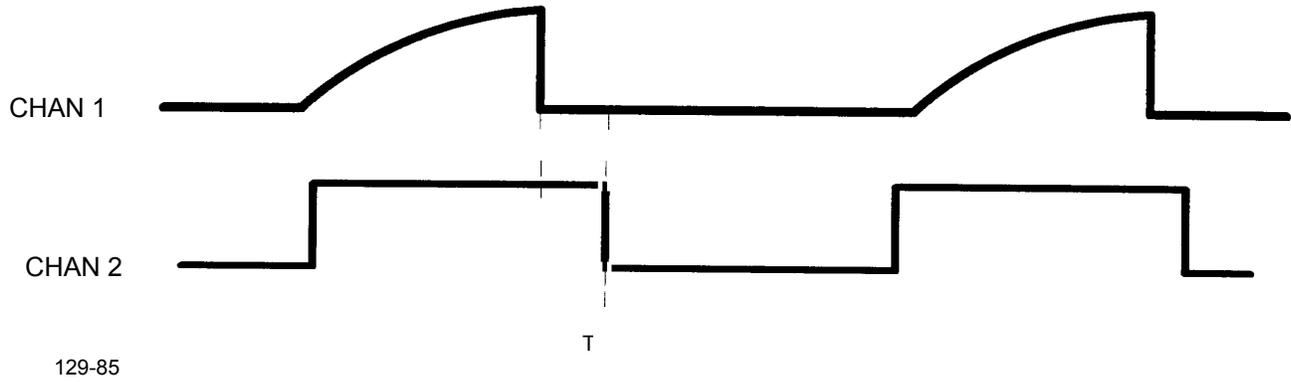

Figure D-36. Signal Shape on Oscilloscope
- h. Measure the two signals on oscilloscope CHAN 1 and CHAN 2 and compare the signals. See Figure D-36. Verify delay time between channels is 77 ± 17 sec.